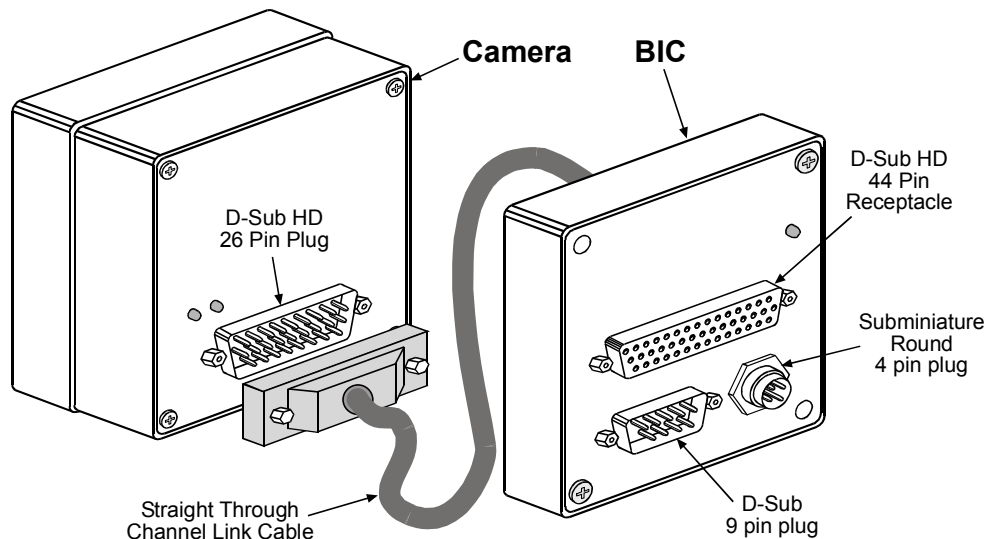

Figure A-13: Attaching a Cable to the Camera and the BIC
1. Connect a straight-through Channel Link Cable from the 26 pin plug on the back of the camera to the 26 pin receptacle on the front of the BIC (see Figure A-13).